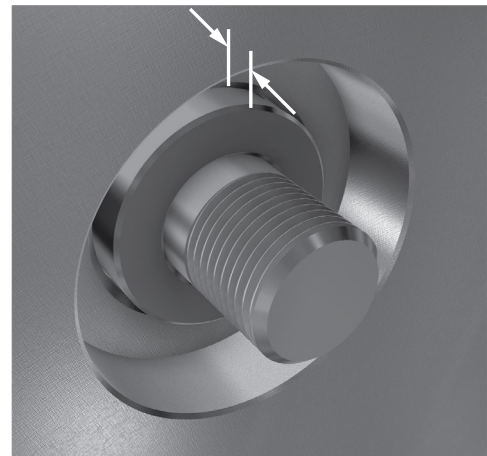

Figure 12-4: Shaft/sleeve protruding for impeller
18. Ensure shaft (122) shoulder or sleeve (126) shoulder is protruding through the stuffing box (184) such that when impeller (101) is treaded on it will not touch the stuffing box (184). See Figure 12-4 for protrusion reference.